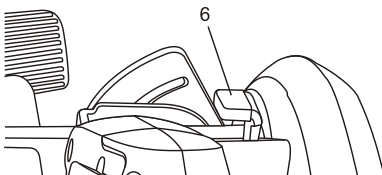

Fig. 2
2. Lift the depth adjustment lever (1) and lower the sole plate (2) as far as it will go (Fig. 2). Press down on the depth adjustment lever to lock the sole plate in its lower position.
3. Rotate the lower blade guard lever (3) clockwise toward the front of the saw and carefully place the saw on the cardboard.
4. Insert the 6 MM blade hex key into the blade screw (4).
5. Rotate the blade hex screw counter clockwise and remove both the blade screw and the outer blade flange (5).
NOTE: If the arbor turns with the blade screw, press on the blade locking lever (6) and slowly rotate the blade screw until the locking lever engages the spindle (Fig. 2).
NOTE: Press on the blade locking lever (6 Fig. 2) and slowly rotate the blade screw clockwise until the locking lever engages the spindle. Continue to turn the blade screw clockwise until the blade is firmly tightened onto the spindle.